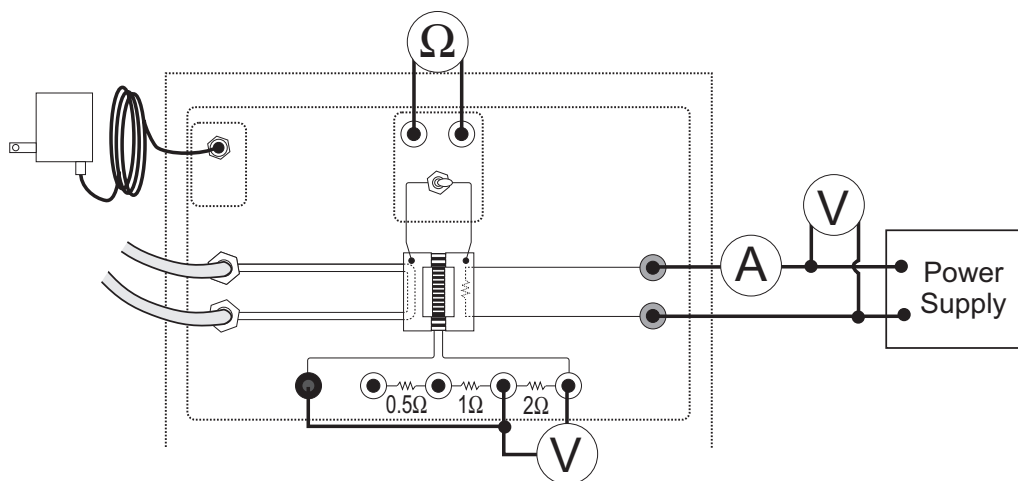

Figure 1.1
- ⑤ Connect the 2Ω load resistor with a short patch cord as shown in Figure 1.1. Connect a voltmeter across the load resistor. The choice of the 2Ω load resistor is arbitrary. Any of the load resistances may be used.